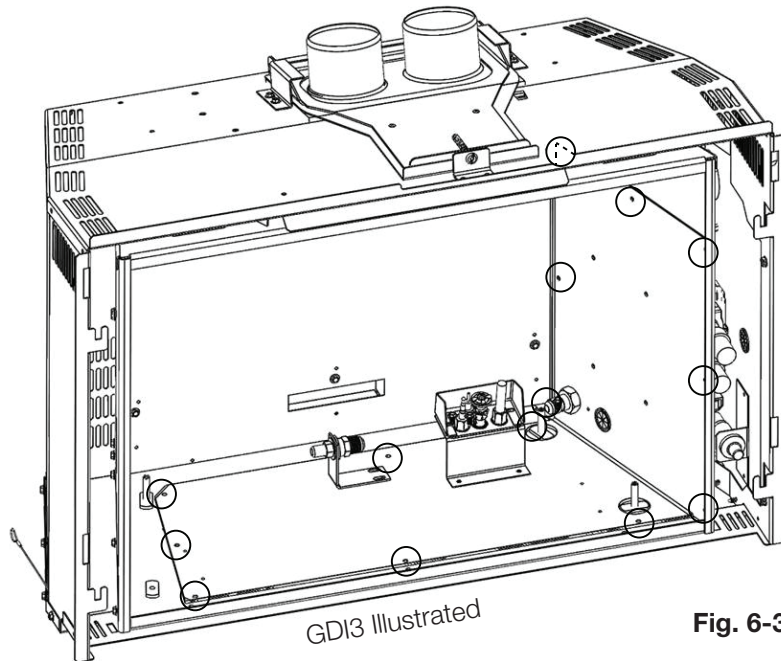

Fig. 6-3
- D. Remove the 14 screws holding the valve train in place (**Fig. 6-3**).